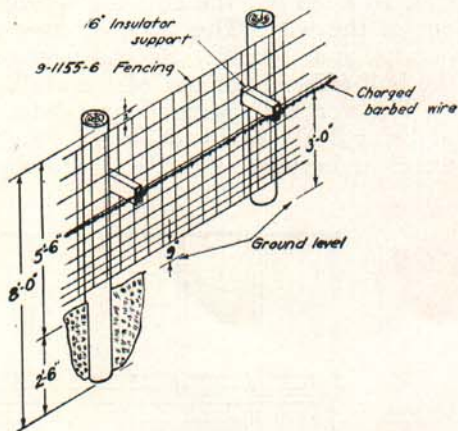

Fig. 7. Woven wire fence, reinforced by an electrified wire.
**Woven Wire:** (Fig. 7.) Even though extra strong, this fencing used alone is undesirable. In time the bull will bunt it apart or "scrub" it out of shape. An electrified wire, however, will keep the bull away from the woven wire. The woven wire will restrain the bull if the electrified wire temporarily goes dead.